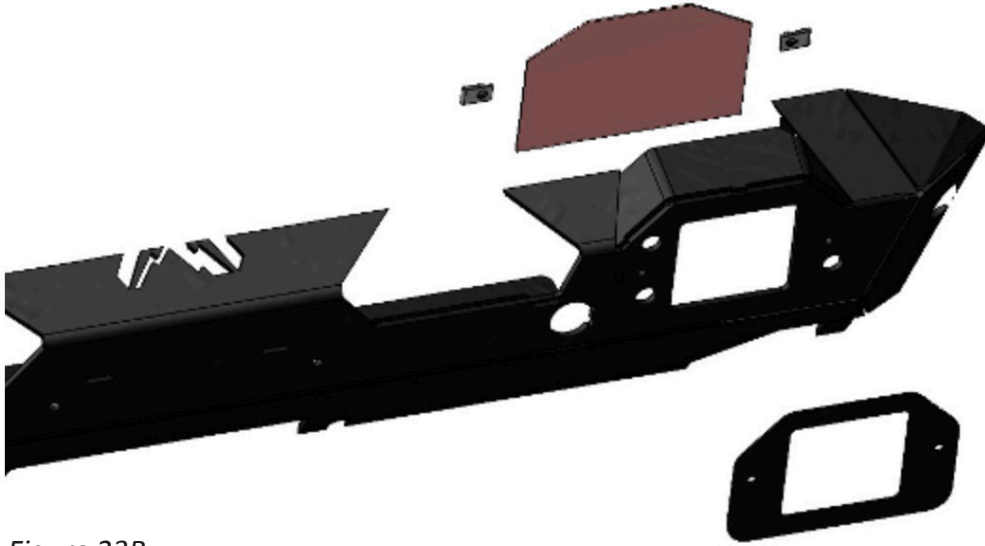

Figure 23B
21. Install the two (2) provided barrel nuts onto the ACC filler panel and insert it inside the bumper. Using the two (2) provided 10-24 socket head cap screws with an 1/8" Allen wrench, install the ACC cover plate. Figure 23B